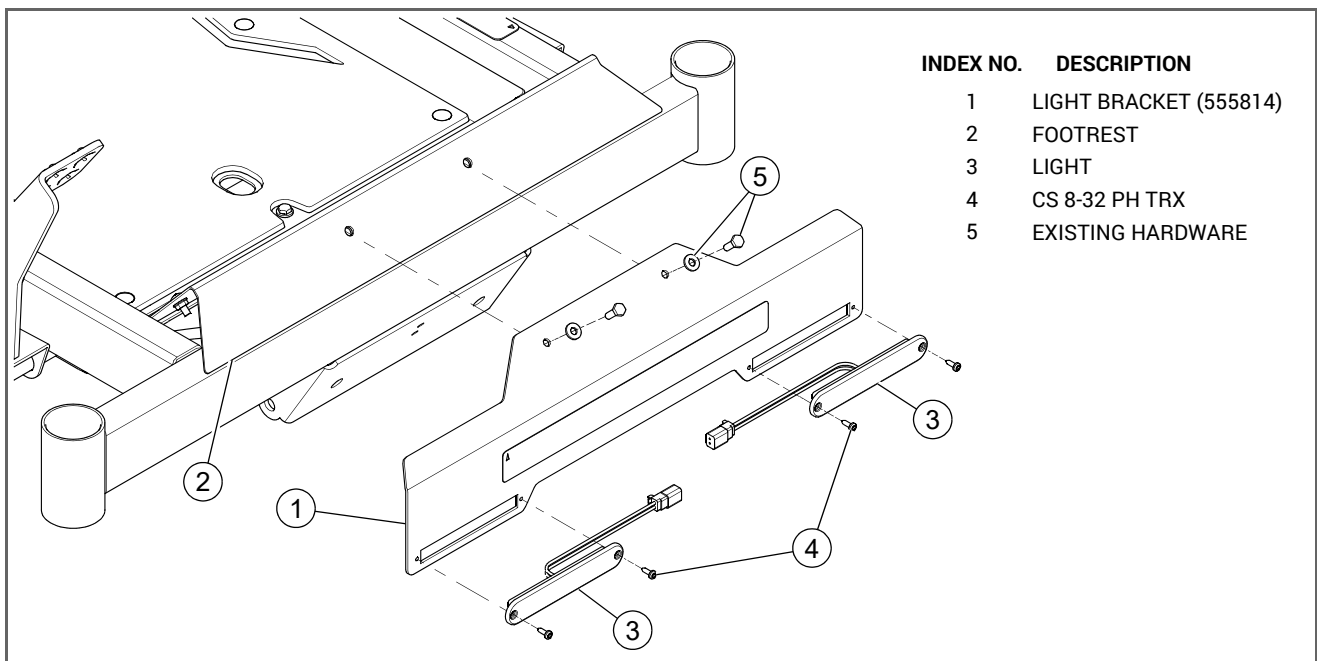

FIG. 1
2. **RAPTOR X/RAPTOR XL**, remove the front cover. Keep the existing hardware. FIG. 1